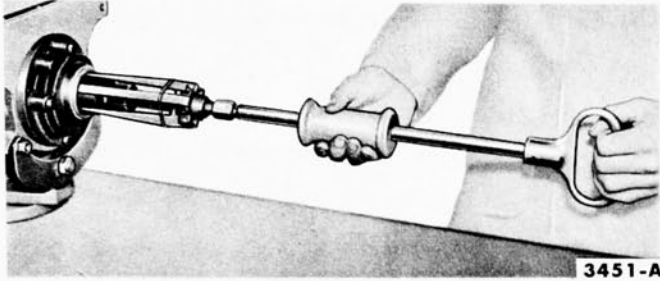

FIG. 17—Front Seal Removal
9. Install the oil seal remover shown in Fig. 17, then pull the front seal from the pump body. **The front seal is ½ inch thick.**